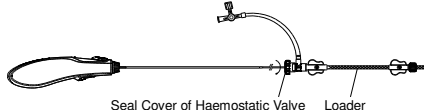

Figure 8. Illustration of clockwise screwing the seal cover of Haemostatic valve
- Twist the seal cover of the haemostatic valve to suitable degree (Refer to Figure 8), and then repeatedly push and pull to make sure the tension is appropriate.